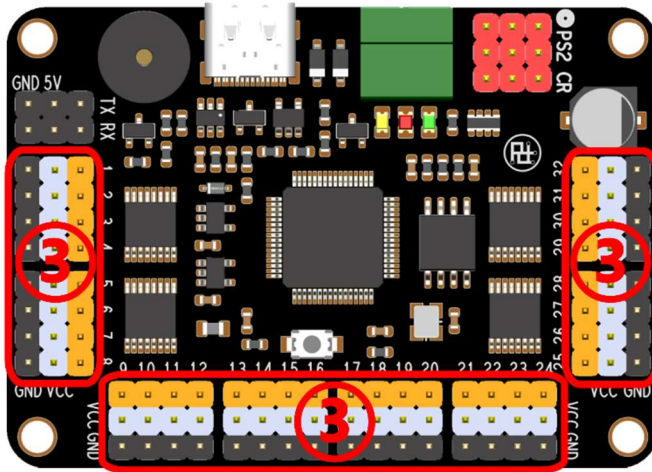

Figure 2
II. Servo motor wiring method, as shown in Position ③ in *Figure 2*: